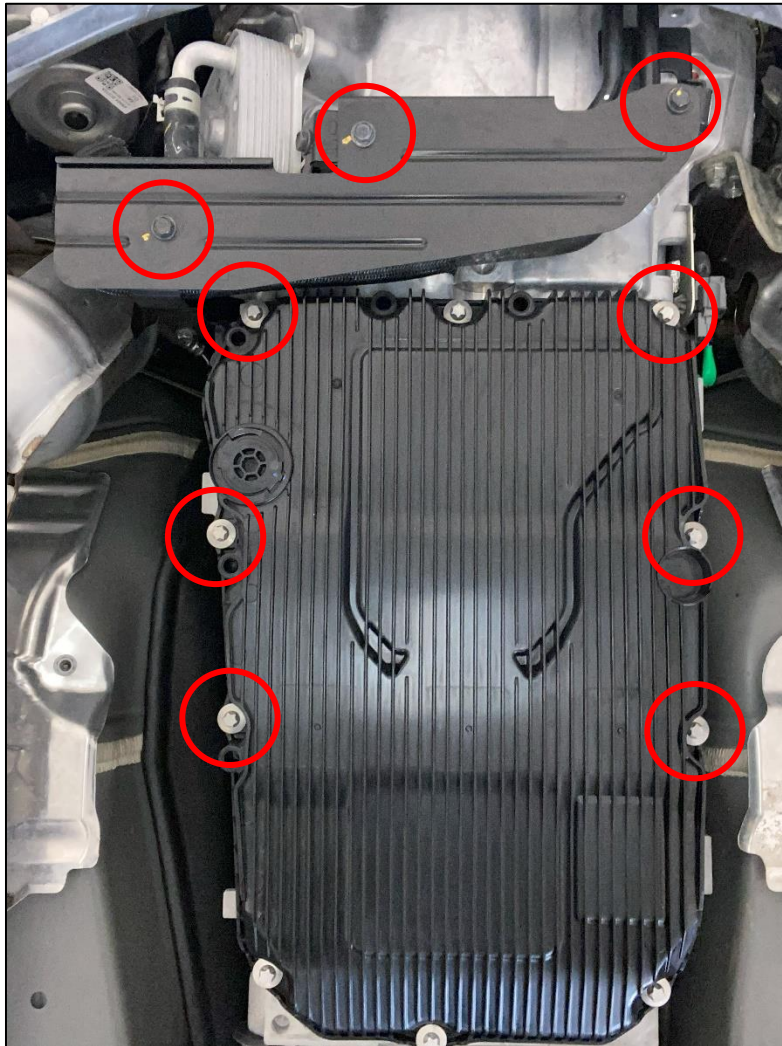

Figure 1
3. Locate the Transmission Pan. Remove the (9) nine bolts securing the Transmission Pan and Bracket circled in *Figure 1* below, retain this hardware. The Transmission Pan bolts need an E10 Socket for removal, however an 8mm will work if absolutely necessary.